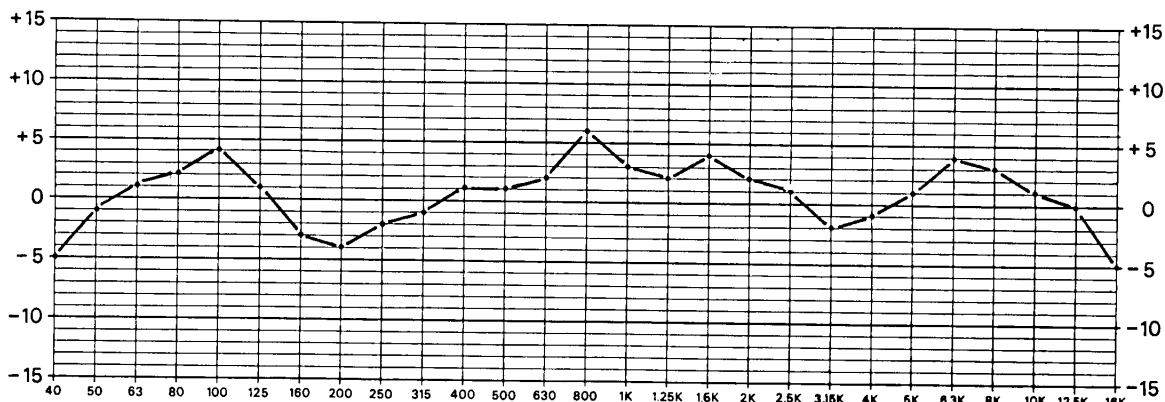

Figure 4-4 TYPICAL RAW HOUSE CURVE
4.4 ADJUSTMENT OF EQUALIZERS. Room equalization is performed as a series of approximations of control settings. Looking at the sample raw house curve in Figure 4-4 we can infer that if an inverse electrical response curve were placed in the audio chain that the result would be a flat frequency response.